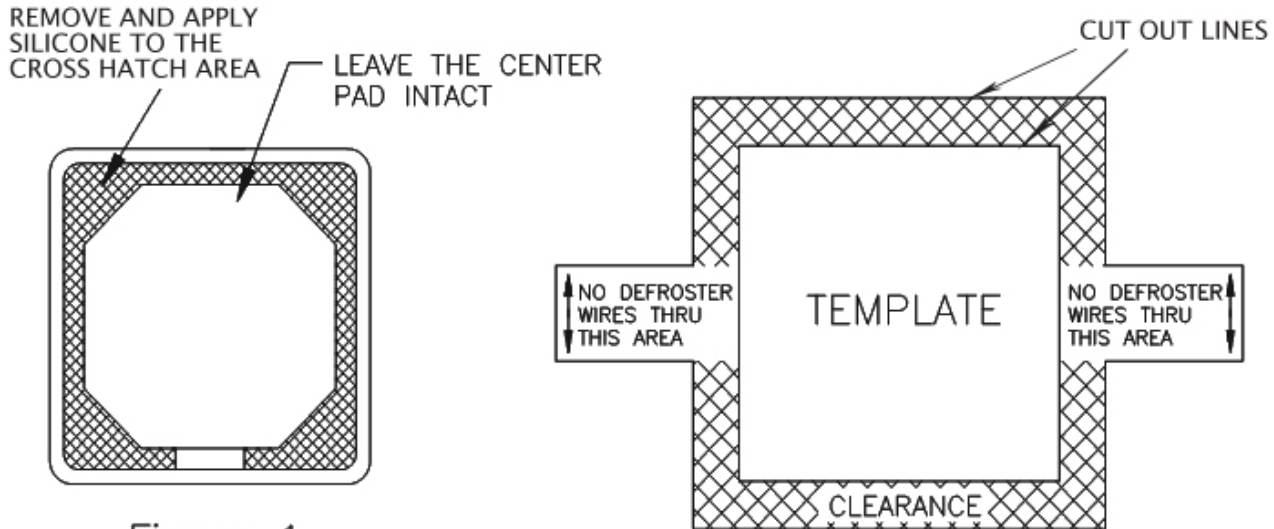

Figure 1
3. Remove the corners on the adhesive pad as shown in Figure 1, leaving the center pad intact.
NOTE: Configuration of the coupler may be different from that shown in Figure 1, depending on the antenna model.